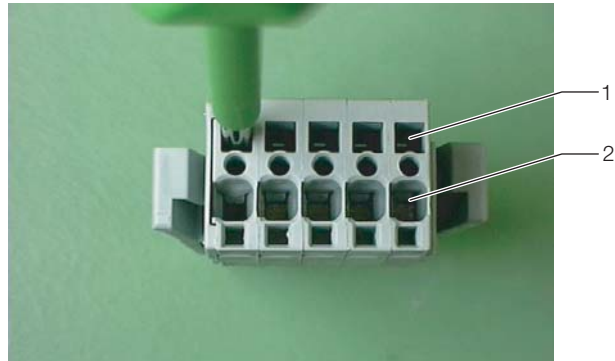

Fig. 30: Connection plug – rear
- Insert a screwdriver into an activation opening (Fig. 30, item 1) and open the screw terminal clamping point of the conductor entry (Fig. 30, item 2).